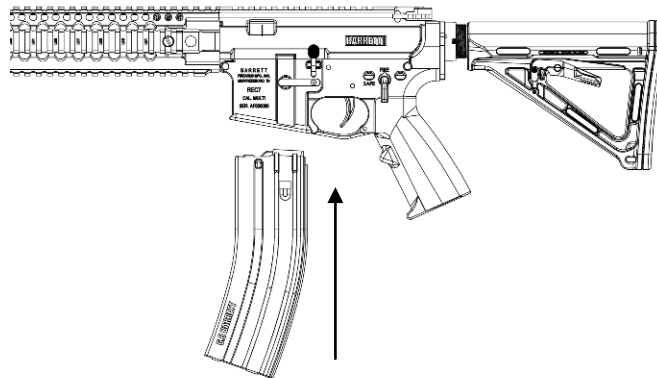

Figure 7
1. Insert a loaded magazine fully into the magazine well. Insert the magazine until the magazine catch engages and holds the magazine. Tap the magazine upward to ensure the magazine is fully seated. (Figure 7).